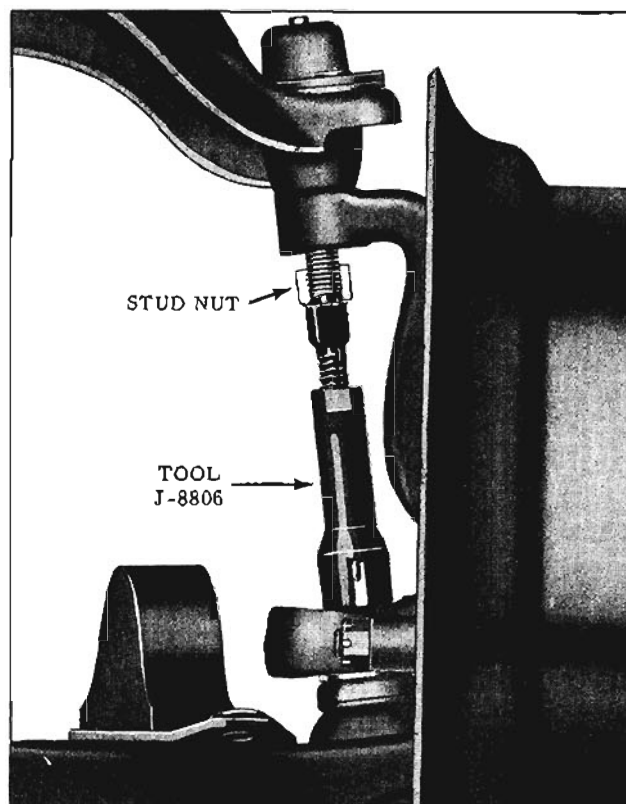

Fig. 9-13 Loosening Upper Ball Joint
- b. Loosen the upper ball joint nut and install Tool J-8806 as shown in Fig. 9-13.
2. Remove the temporary support from the hub and drum, then connect ball joint to steering knuckle. Torque nut 40 ft. lbs. (minimum) and install cotter pin. Tighten nut further, if necessary, to install cotter pin. Attach ground strap to control arm. (Fig. 9-13)